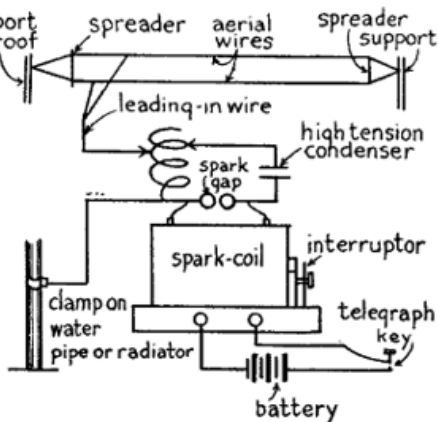

FIG. 2.—Simple Transmitting Set.
(4) a *spark gap*, (5) an *adjustable condenser* and (6) an *oscillation transformer*. Where *dry cells* or a *storage battery* must be used to supply the current for energizing the transmitter a spark-coil can be employed and these may be had in various sizes from a little fellow which gives 1/4-inch spark up to a larger one which gives a 6-inch spark. Where more energy is needed it is better practice to use a transformer and this can be worked on an alternating current of 110 volts, or if only a 110 volt direct current is available then an *electrolytic interrupter* must be used to make and break the current. A simple transmitting set with an induction coil is shown in *Fig. 2*.